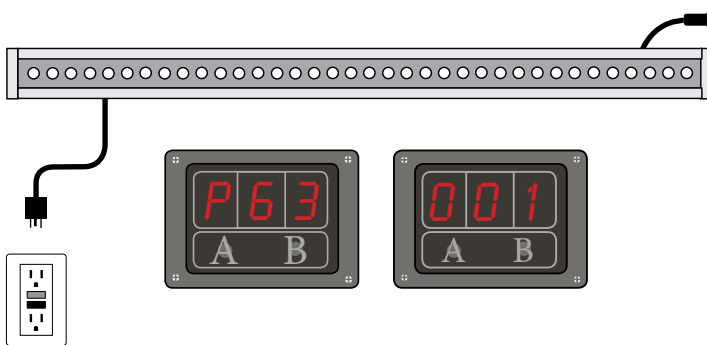

Fig. 2a
1. Link each wall washer together with the attached male and female XLR-3 cables (maximum run: 10 fixtures). Power up each wall washer by inserting the AC cord into a 120VAC electrical receptacle (Fig. 2a).
3. In the master wall washer Function (P) Menu (Fig. 2a), set the desired command for all master & slave fixtures to perform in Fields 2 & 3. Once selected, wait 10 seconds for the selected field to stop flashing and the selected command will be set.